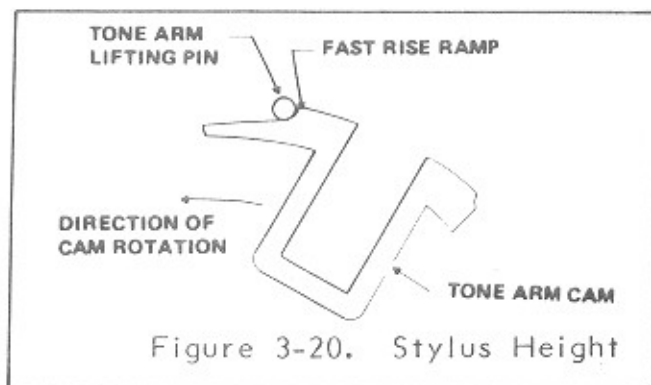

Figure 3-20. Stylus Height
2. Turn auto cancel screw until stylus holder is flush to  $1/64$  inch above turntable pad surface with tone arm in play position (See Figure 3-20.).